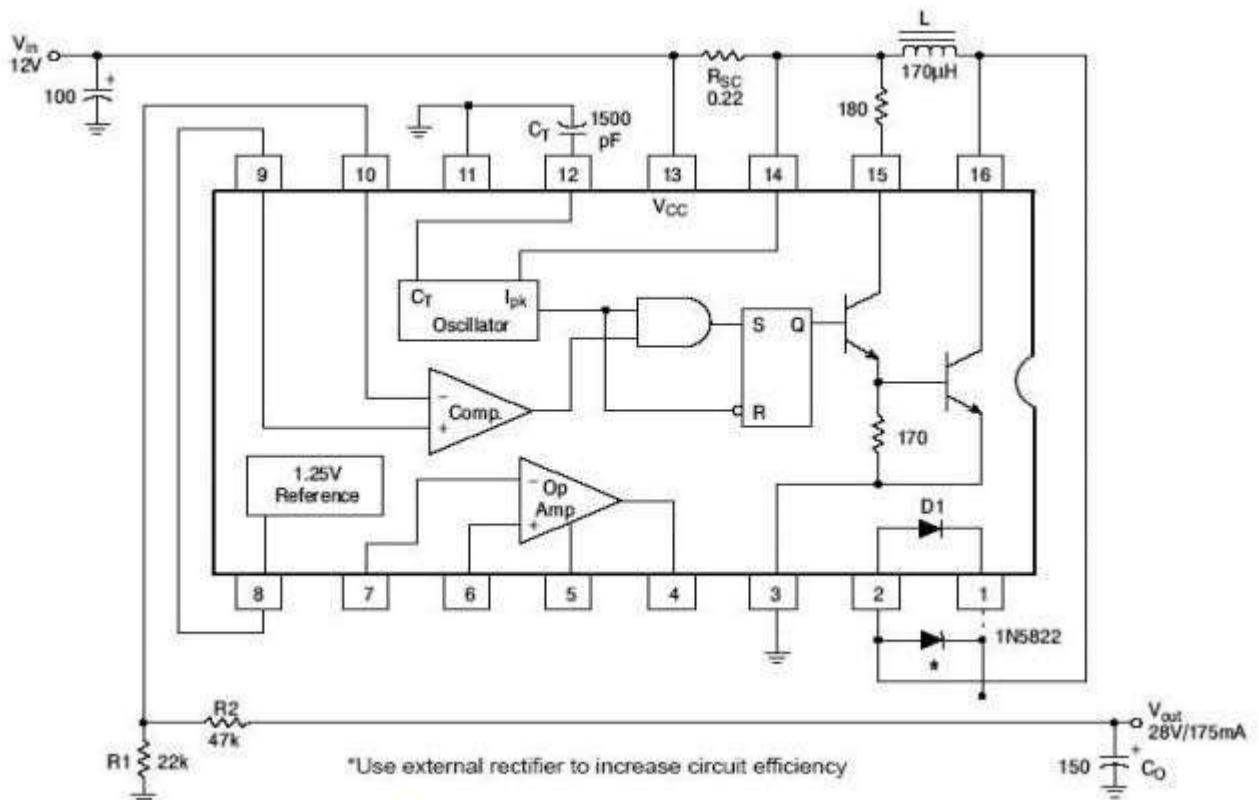

Figure 5.7.4. Step up converter
- The inductor stores the energy. When the Q1 is turned OFF, there is a self induced emf that appears across the inductor with polarities. Operation with Q1 ON and Q1 OFF is shown in Figure 5.7.4.